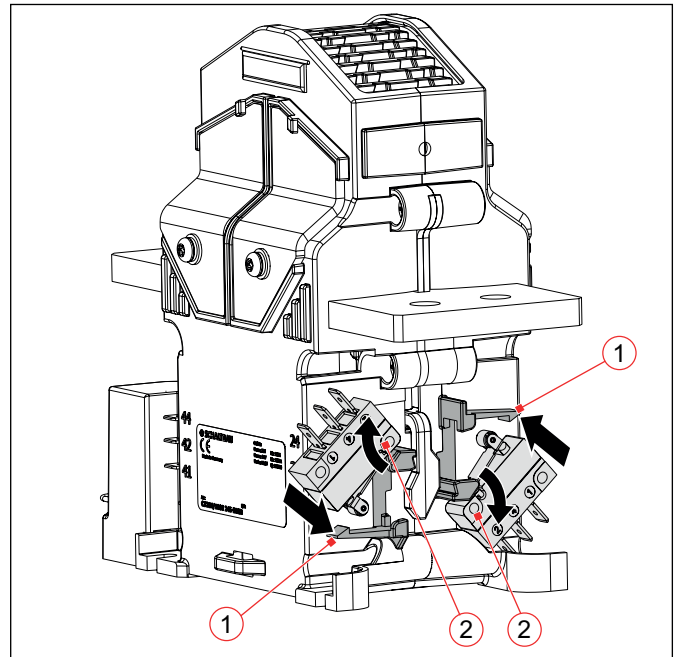
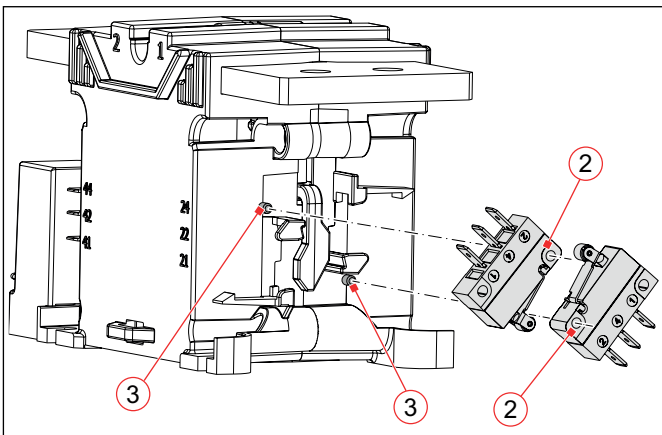

Fig. 19: C320K: Replacing the auxiliary switches - 1
Fig. 22: C320S: Replacing the auxiliary switches - 2
- ▶ Carefully release the snap-fit hook (1) of the catch mechanism.
- ▶ Continue to hold the snap-fit hook (1) carefully and turn the auxiliary switch (2) approx. 45° clockwise around the bearing pin (3).
- ▶ Pull the auxiliary switch (2) off the bearing pin (3).
- ▶ Place a new auxiliary switch (2) in approx. 45° position (as shown in Fig. 19 to Fig. 22) on the bearing pin (3).
- ▶ Carefully turn the auxiliary switch (2) counterclockwise around the bearing pin (3) until it slides into the mounting and the snap-fit hook (1) engages.